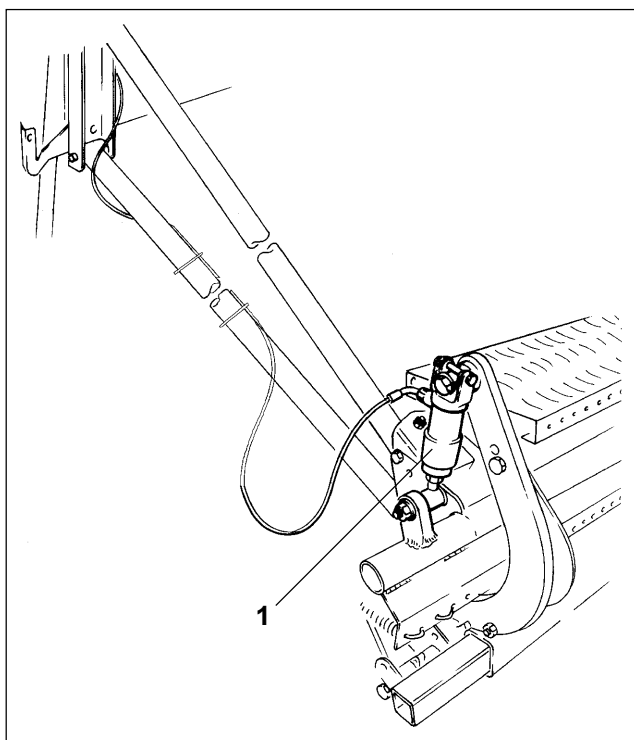
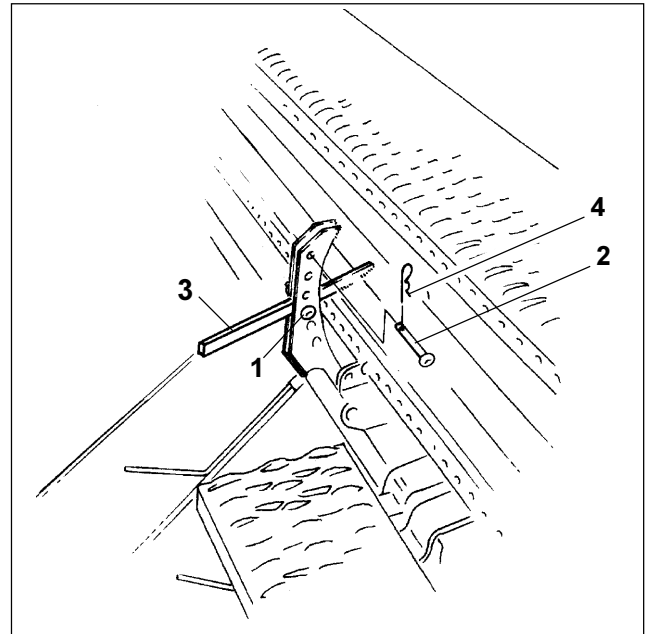

Fig. 14.10
Fig. 14.11
When changing from normal soil to heavy soil or vice versa, the coulter pressure is readjusted by a hydraulic ram (Fig. 14.10/1).
Two pins (Fig. 14.11/1 and Fig. 14.11/2) are placed as a stop for the lever (Fig. 14.11/3) in the setting segment. The lever (Fig. 14.11/3) which is actuated by the hydraulic ram (Fig. 14.10/1) rests on the pin I (Fig. 14.11/1) when the hydraulic ram is without pressure and it stops on pin II (Fig. 14.11/2) when the hydraulic ram has been pressurised.
- Pressurise hydraulic ram (Fig. 14.10/1).
- Insert pin I (Fig. 14.11/1) into a hole in the setting segment below the lever (Fig. 14.11/3) and secure by using a clip pin (Fig. 14.11/4).
- Relieve the hydraulic ram (Fig. 14.10/1) from pressure.
- Insert pin II (Fig. 14.11/2) into a hole **above** the lever (Fig. 14.11/3) in the setting segment and secure by using a clip pin (Fig. 14.11/4).